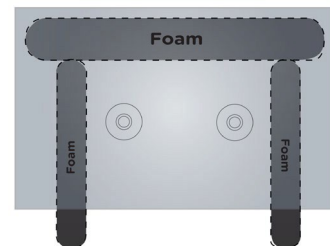

Figure 2 – Foam pieces being used for the back and lateral sides of the chock
- Install the foam pieces as shown in Figure 2 below.